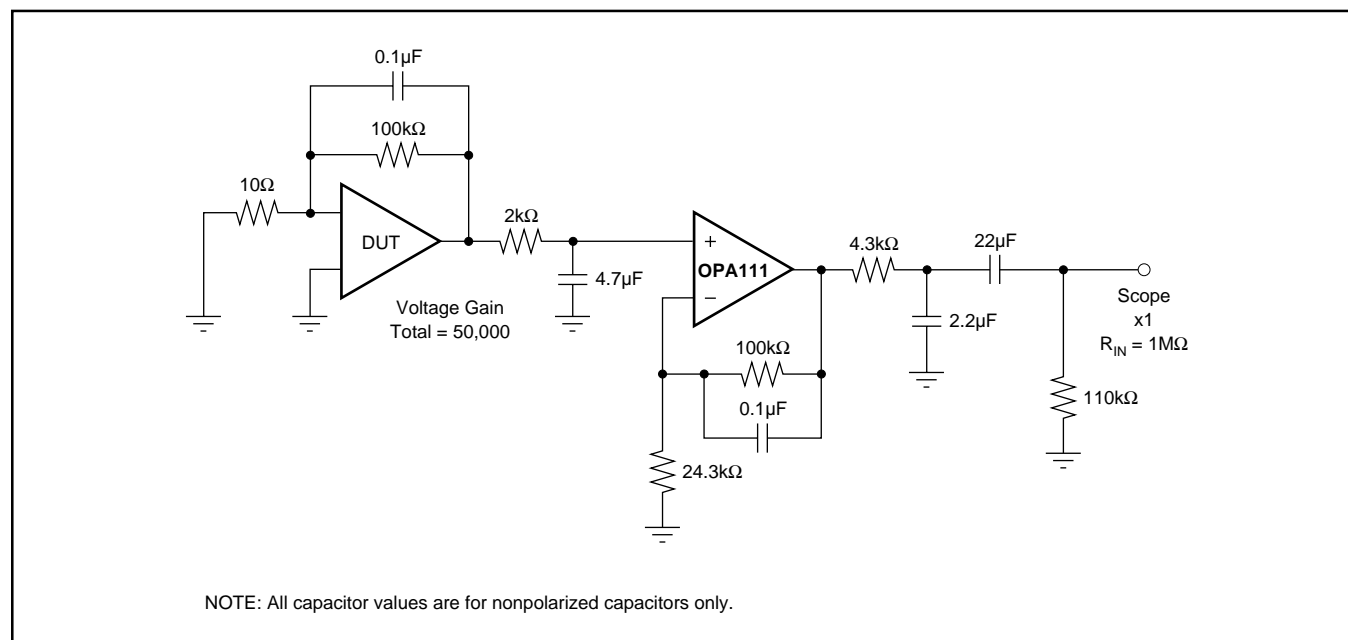

FIGURE 1. 0.1Hz to 10Hz Noise Test Circuit.
NOTES: (1) Measured with industry-standard noise test circuit (Figures 1 and 2). Due to errors introduced by this method, these current noise specifications should be used for comparison purposes only. (2) Offset voltage specification are measured with automatic test equipment after approximately 0.5 seconds from power turn-on. (3) Unnulled or nulled with $8k\Omega$ to $20k\Omega$ potentiometer. (4) Long-term voltage offset vs time trend line does not include warm-up drift. (5) Typical specification only on plastic package units. Slew rate varies on all units due to differing test methods. Minimum specification applies to open-loop test. (6) This parameter guaranteed by design.